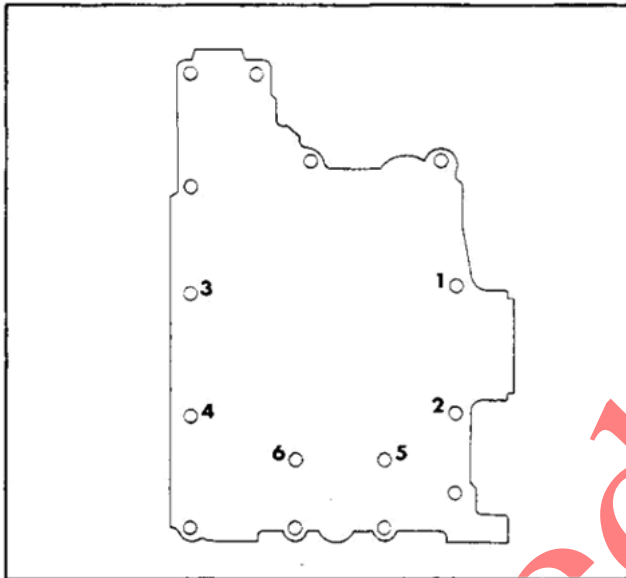

Figure 11-19. Crankcase Fastener Torque Sequence.
6. Torque fasteners #1 through #6 in the sequence shown to a preliminary value of **100 in. lb.** Torque the remaining fasteners to **100 in. lb.** in the most expedient sequence. Refer to Figure 11-19.
7. Torque fasteners #1 through #4 to **260 in. lb.** Torque fasteners #5 and #6 to **200 in. lb.** Torque the remaining fasteners to **200 in. lb.** in the most expedient sequence. Refer to Figure 11-19.